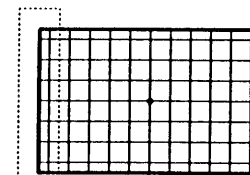

FIG. 9
19. RK52 (S KEY) controls the outer most line on the left hand side. Adjust RK52 so that the blue line is at its most parallel point to the green and not necessarily converged on top of it. See Fig. 9.